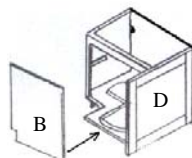
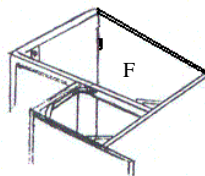

Figure 7
Figure 8
10. Place the face panel and align the cam lock connectors with side panels. Make sure that it fits and locked. (Figure 7)
11. Place and mount door assembly (K) into the two cam lock connectors on face frames first then into connectors on the right side panel. Make sure that all fits and lock the cam lock connectors on face frame first then into connectors on the right side panel. Make sure that all fits and lock the cam lock connectors. Screwing short toe kick (I) to long to kick (H) with cam lock, then put onto the cabinet under the door. Make sure that all fits and lock the cam lock connectors. Reposition the cabinet back to upright and cam lock bottom to the frame under the door.
12. Install Corner Braces (Figure 8, 9): position and insert the 4 plastic corner braces in the locations shown in Figure 8 and 9, secure them with 1/2" screws (L).